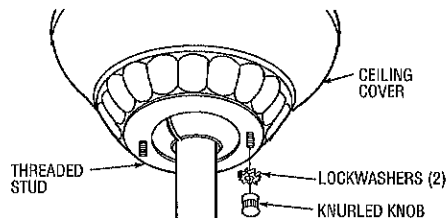

Figure 13
- ☐ 4. Lift the ceiling cover up to the threaded studs and turn until studs protrude through the holes in the ceiling cover (Figure 13).
- ☐ 5. Secure the ceiling cover in place by sliding lockwashers over the threaded studs and installing the two knurled knobs (supplied). (Figure 13.) Tighten the knurled knobs securely until the ceiling cover fits snugly against the ceiling and the hole in the ceiling cover is clear of the downrod. Your fan is now wired to be turned on and off from the fan switch.